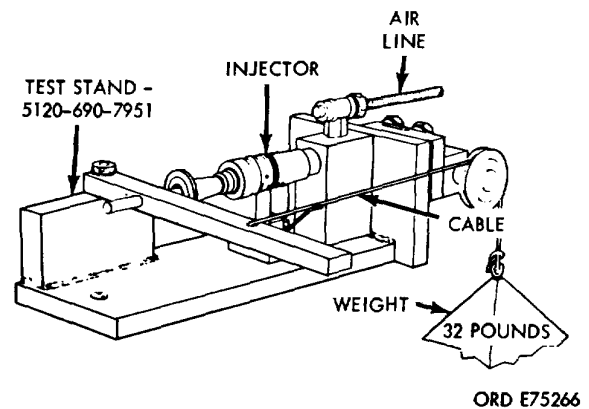

Figure 3-58. Injector plunger seat test.
(1) Install injector assembly on test stand as shown in figure 3-58.